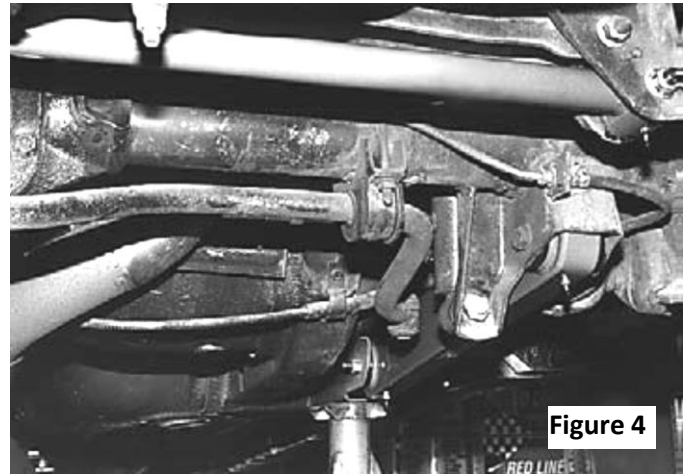

Figure 4
1. Install the QA1 panhard bar with the grease fittings facing down. See **Figure 4**. QA1 panhard bars are greased during assembly, but it is good practice to grease the bushings during installation.